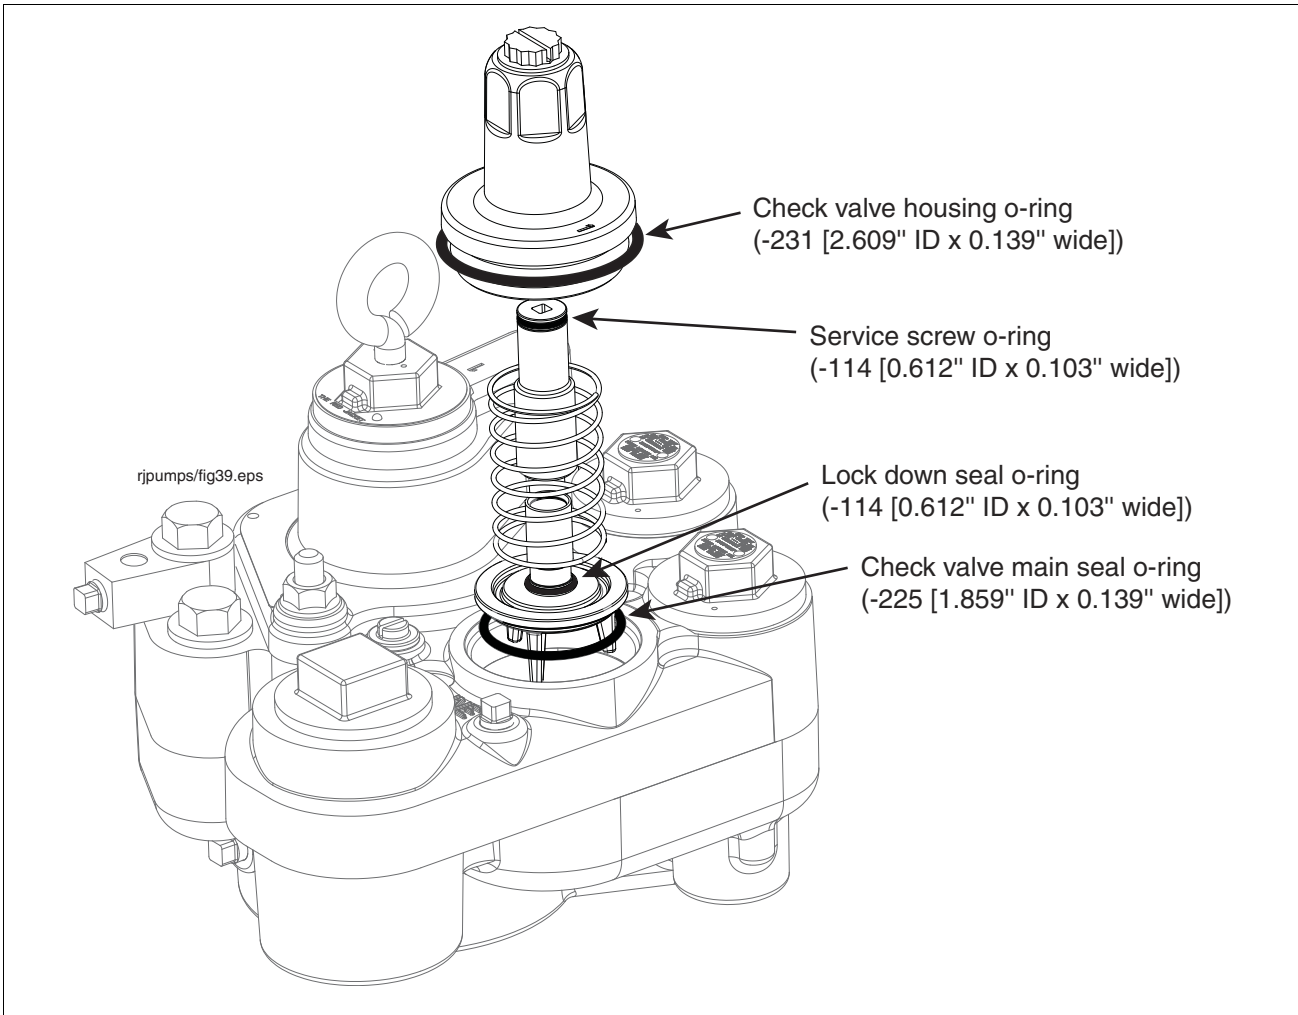

Figure 36. Inserting Check valve assembly into manifold
6. With its lubricated o-ring in place, insert the check valve onto its seat in the manifold, and place the new spring over the check valve (see Figure 36). Place the check valve housing with o-ring over the spring and check valve and screw it in hand tight. Torque the housing to 40 - 50 ft-lbs (54 - 67 N•m).